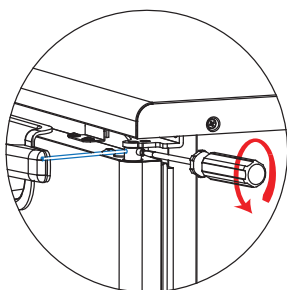

Fig 9-38
3. Turn and detach the tension pin by using a (-) screwdriver. Avoid dropping or losing the pin. (Fig 9-38)